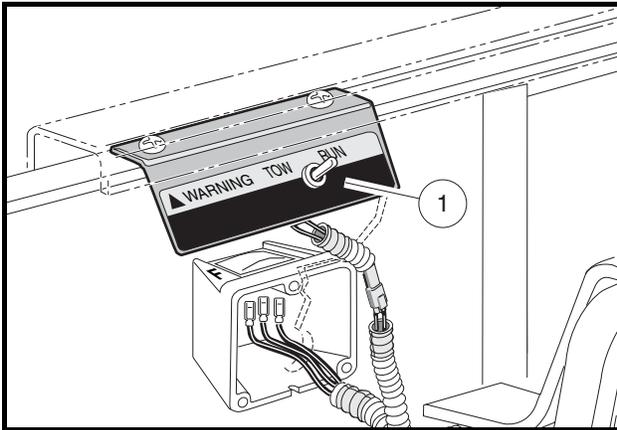
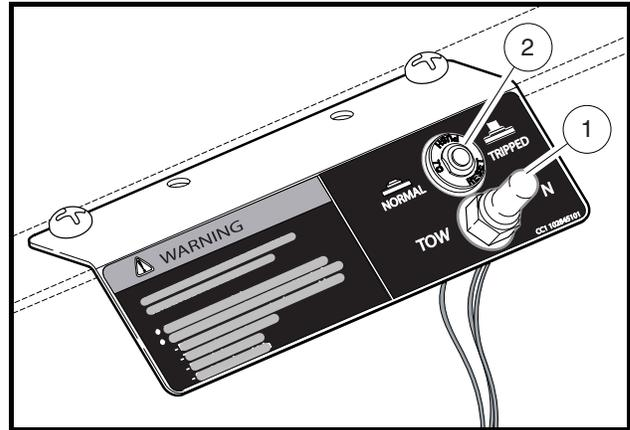

Figure 11 Tow/Run Switch – IQ System
Figure 12 Tow/Run Switch – IQ Plus
Electric vehicles are equipped with a Tow/Run switch (1), located on the seat support panel under the seat (**Figure 11 or Figure 12**). The switch must be in the RUN position in order to operate the vehicle. When the switch is in the TOW position, power to the vehicle electrical components is turned off and the vehicle will not operate. See following **NOTE**.
IQ Plus vehicles are equipped with a circuit breaker (2), located next to the Tow/Run switch (**Figure 12**). If the circuit breaker has been tripped, a series of rapid beeps will sound and vehicle speed will slow to approximately one-half of its top programmed speed. In the event of a tripped circuit breaker, bring the vehicle to a complete stop, remove seat, and push the breaker to reset. If the circuit breaker trips again when vehicle operation is resumed, contact a local Club Car distributor/dealer.